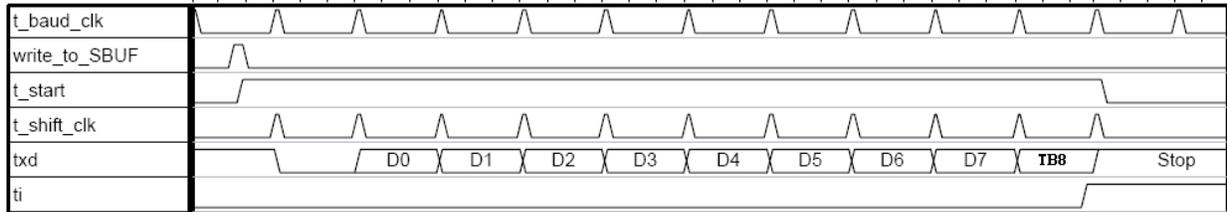
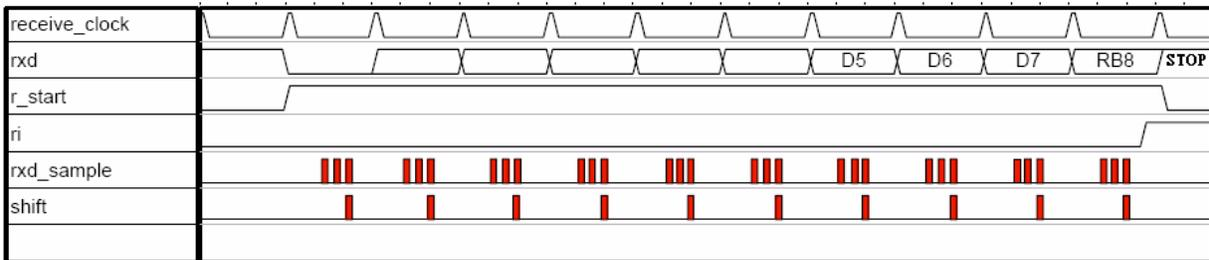

Fig. 9-7: Transmit mode A for Serial 1
Fig. 9-8: Receive mode A for Serial 1
This mode is similar to Mode 2 and 3 of Serial interface 0, 11 bits are transmitted or received: a start bit (0), 8 data bits (LSB first), a programmable Bit 9, and a stop bit (1). Bit 9 can be used to control the parity of the serial interface: at transmission, bit TB81 in S1CON is outputted as Bit 9, and at receive, Bit 9 affects RB81 in SFR S1CON. As shown in Fig. 9-7 and Fig. 9-8.